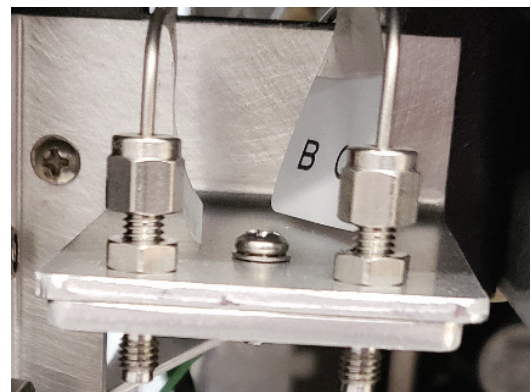
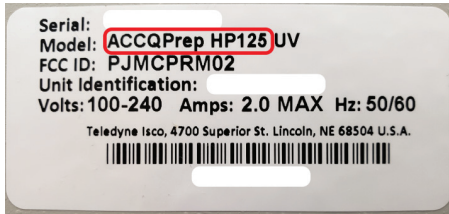

Figure 7: Swagelok style pump bulkhead connections
Figure 8: Instrument configuration label
- If the pump bulkhead connections are currently Swagelok on this instrument (Figure 7) and the instrument is a HP125 (Figure 8), then the **Installation of Swagelok Bulkhead** section can be skipped.
- If the pump bulkhead connections are currently Swagelok on this instrument (Figure 7) and instrument is a HP150 (Figure 8), then the **Installation of Swagelok Bulkhead and Converting Pump Assembly from HP150 to HP125 Configuration** sections can be skipped.